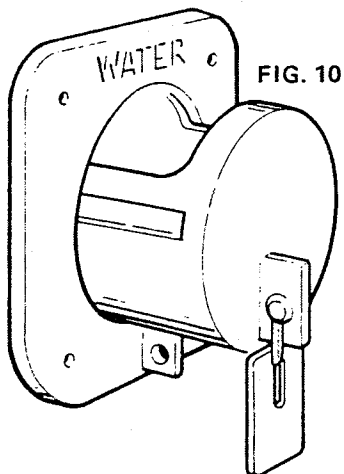

FIG. 10
**WATER TANK** — Open the water fill spout (FIG. 10). Using either a bucket or hose, pour in desired amount of water. Water will flow out of the spout's overflow port when the tank is full. Close and secure the spout.